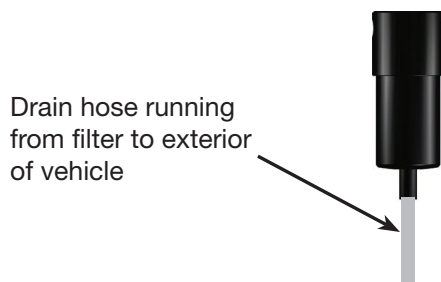

fig. 8
5. Run the hose from bottom of filter to location where water will drain (fig. 8).